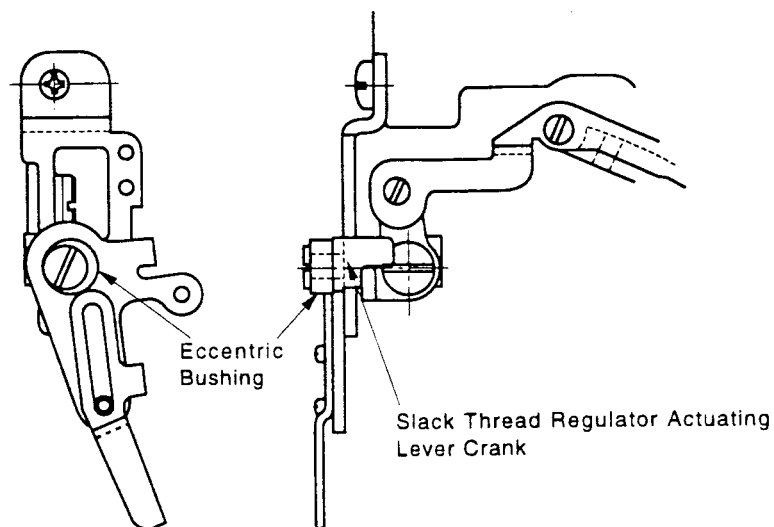

Fig. 62
3. Turn eccentric bushing, as required, so that slack thread regulator actuating lever crank will be activated at the same time the thread puller starts to return to its rest position activated by thread puller action cam (Fig. 62).